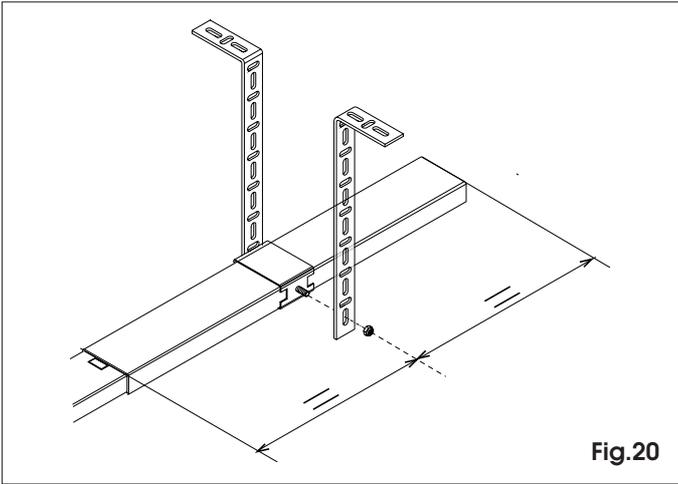

Fig.20
7.15 If using the central support guide, shape the brackets, lock them with a nut and secure them to the ceiling (fig. 20).